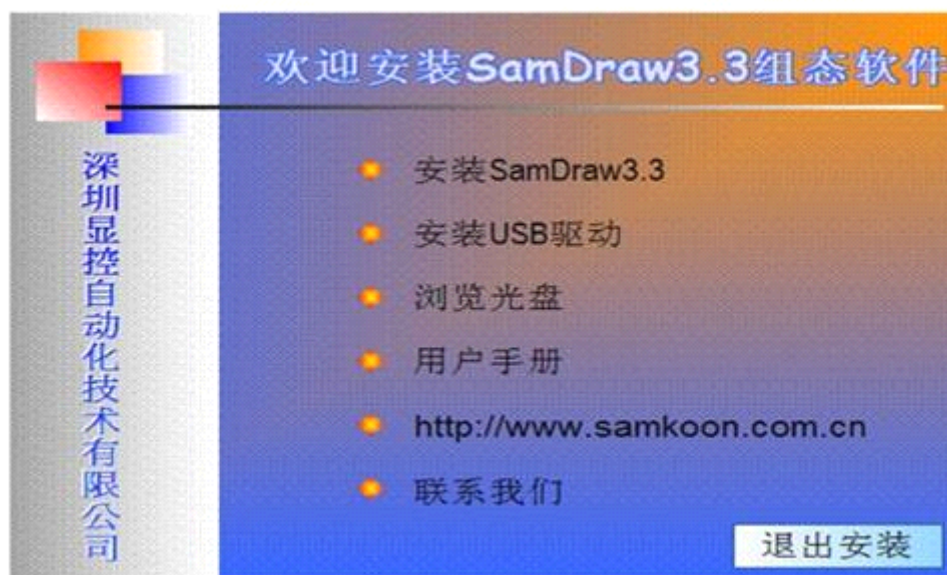

Figure 2-2: Automatic running page
- After inserting the CD, a window of SamDraw installation program will pop up. Open the CD directly, and execute SamDraw3.3.exe. Then an installation window as shown in Figure 2-2 will appear.
- In the installation window, select “Install SamDraw3.3”, that is left click the red circle in Figure 2-2 to start installation.